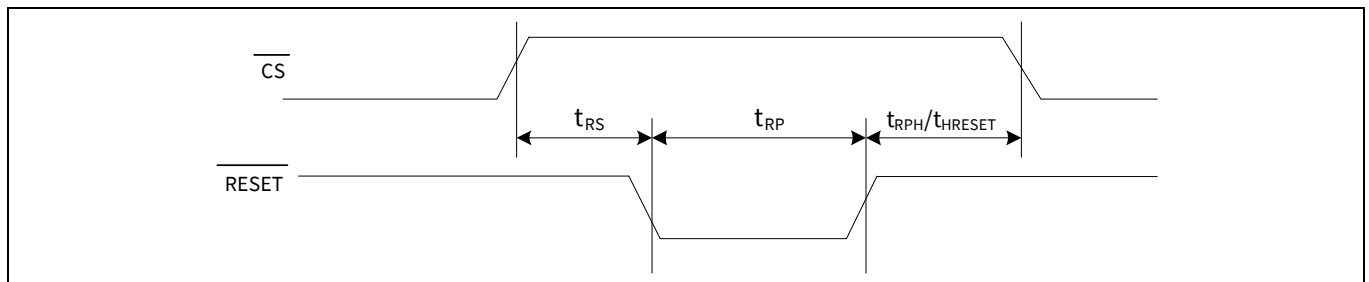
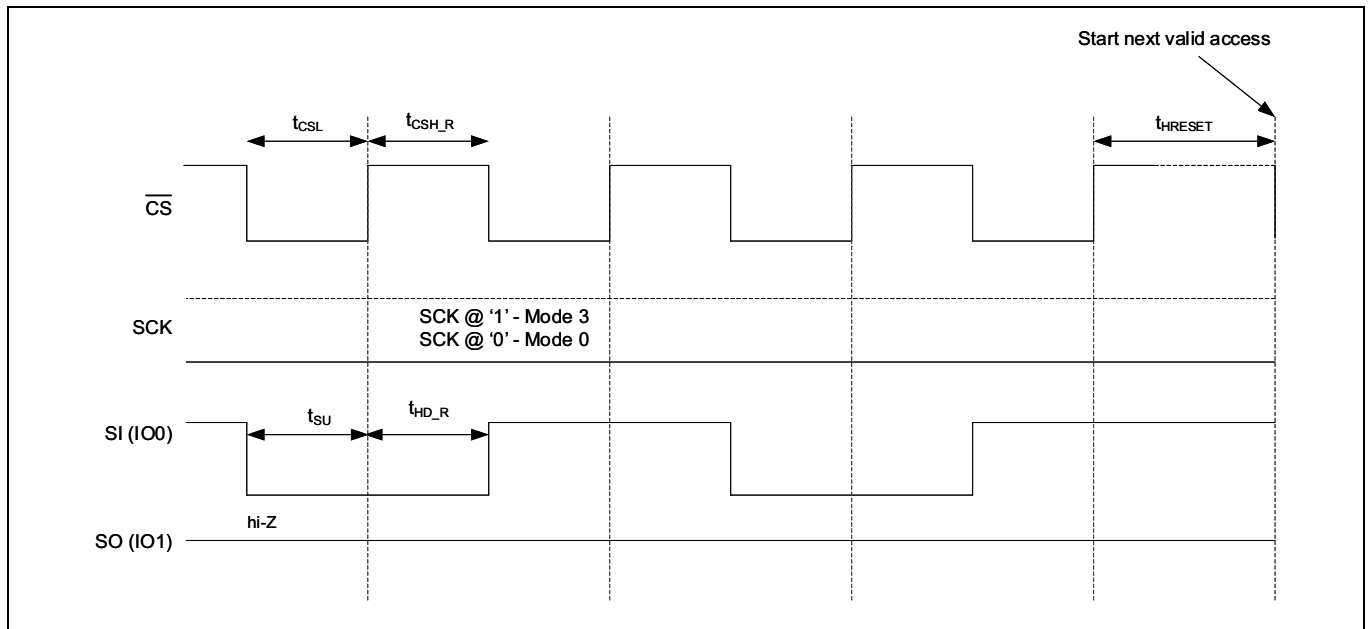

Figure 110 $\overline{\text{RESET}}$ timing - SPI with QUAD set (CR1[1]='1') or QPI enabled (CR2[6]='1')
Figure 112 JEDEC SPI reset
The hardware reset input ($\overline{\text{RESET}}$) is multiplexed on ($\overline{\text{RESET}} / \text{I/O3}$) and is an active LOW signal in CY15x104QSN device. Refer to **Table 21** for hardware reset ($\overline{\text{RESET}}$) pin configurations across various SPI interfaces. When $\overline{\text{RESET}}$ is pulled LOW, CY15x104QSN self initializes and brings its configuration back to the power up status. Refer to **Table 59** for different registers configuration after $\overline{\text{RESET}}$ cycle. Once $\overline{\text{RESET}}$ is issued, CY15x104QSN takes $t_{\text{RPH}}/t_{\text{HRESET}}$ time from $\overline{\text{RESET}}$ rising edge to complete the reset cycle. CY15x104QSN becomes inaccessible during t_{RPH} time. **Figure 110** to **Figure 112** show the $\overline{\text{RESET}}$ timings in different reset mode.
- The $\overline{\text{RESET}}$ pin is multiplexed on I/O3 in the QPI mode. When using the hardware ($\overline{\text{RESET}}$) in QPI mode, the CR2 [5] bit must be set to '1' to enable to use I/O3 as $\overline{\text{RESET}}$ input when CS is HIGH. **Figure 110** shows the $\overline{\text{RESET}} / \text{I/O3}$ timing in QPI mode
Refer to **Figure 112** for timing details.